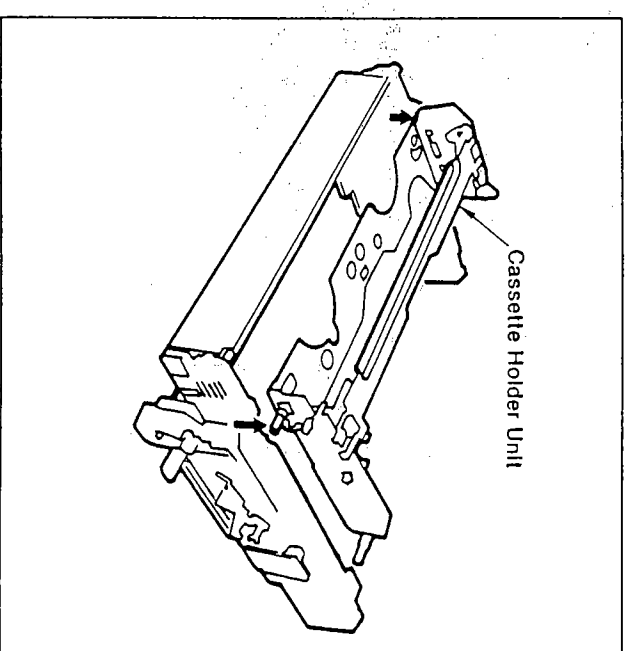

Figure M56 Removal of cassette holder unit
4. Take the cassette Holder unit out as shown in Figure M56.